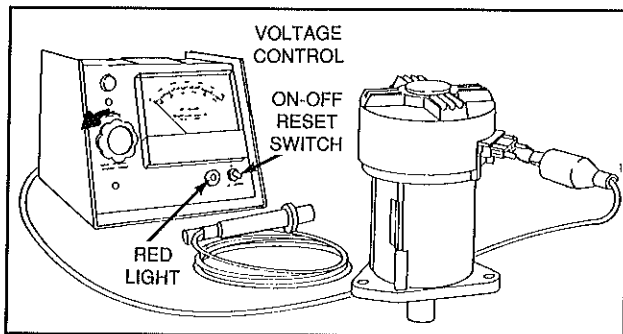

**Fig. 19 – Connecting Hi-Pot Tester**
3. Install test adapter, Tool #19278, into motor connector, Fig. 19.
4. Connect testers RED TEST LEAD to test adapter, Fig. 19.
5. Turn large voltage control knob counterclockwise (left) until knob stops, Fig. 19.